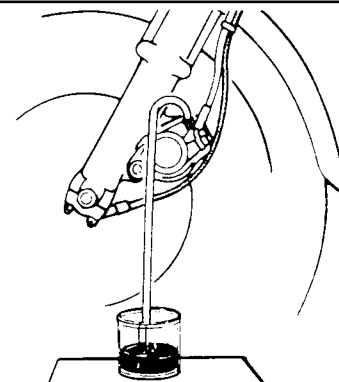

Figure 1. Draining Brake Fluid
2. See Figure 1. Remove the bleeder nipple cap on the front brake caliper. Obtain a length of plastic tubing. Install one end of the tubing over the caliper bleeder valve. Place the free end of the tubing into a suitable container.